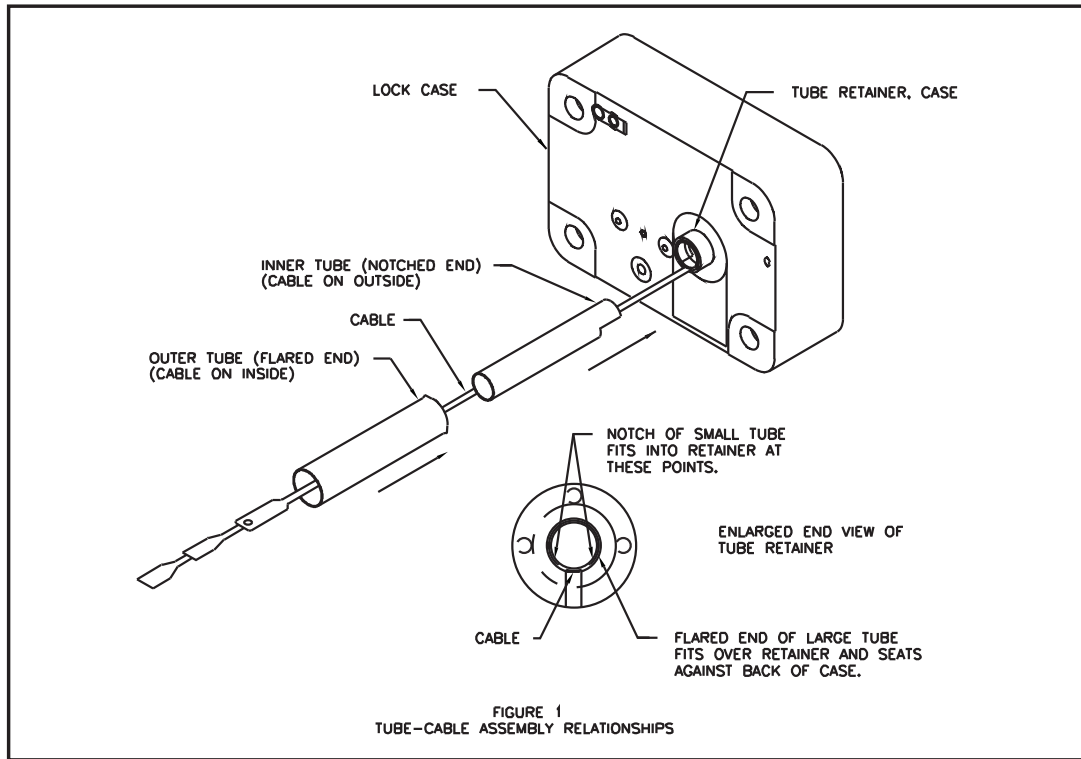

Figure 4- Tube-Cable Assembly Relationships
3. Feed the cables through the outer, larger, tube starting from the flared end of the tube. Seat the tube into position on the tube retainer on the back of the lock case assembly. (See Figure 4 ) Be careful to keep the cables pulled taut while seating the tube to avoid pinching damage to them.
- Feed the cables through the outer tube from the flared end. Seat the tube into position on the tube retainer on the back of the lock case assembly. (See Figure 4 on page 4.) Be careful to keep the cables pulled taut while seating the tube to avoid pinching and damaging them.